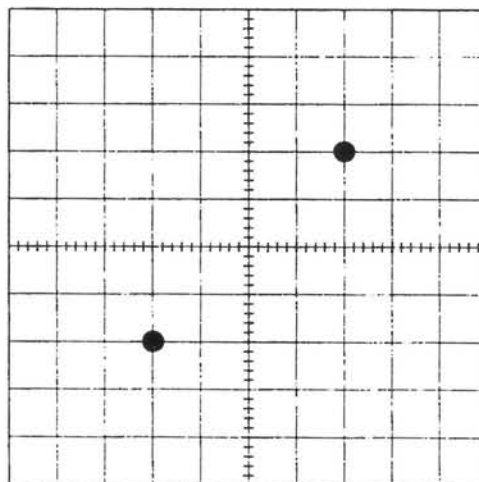

Figure 3-9. Display Mode
12. Press the VECTOR key. Verify that the display appears like the one in Figure 3-9.